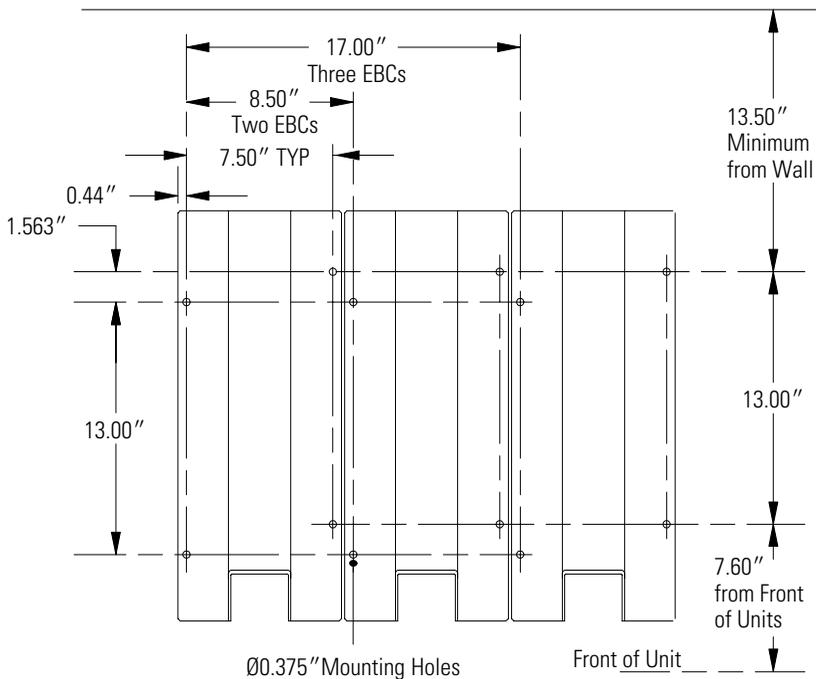

Figure 2. Seismic Installation Mounting Pattern
3. A seismic installation of the EBC requires that the mounting plates be bolted to the floor. See Figure 2 for a detailed drill and mounting pattern.